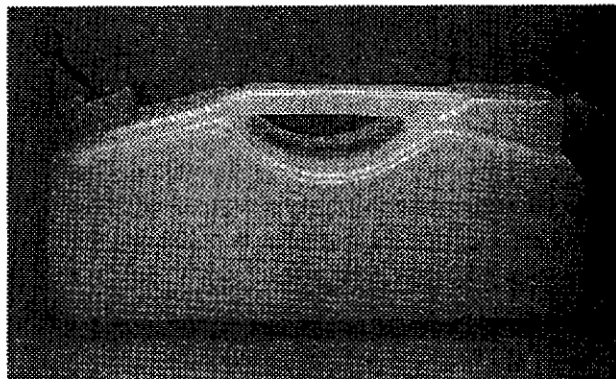

Figure 2-2
4. Bottles can be filled manually or through the external drain and fill port. If filled bottles need to be moved to another location, flip loose the small dark colored cap ① located on top of the bottle screw cap. Affix the small cap to the connector end of the bottle ②. To fill the bottles manually, be sure the bottles are placed on a level surface (Figure 2-2). Remove the bottle cap by turning it counterclockwise. Replace the cap when finished. Ensure that the bottle is securely connected by gently pulling it out. It should not budge. If there is any movement, try connecting the bottle again.